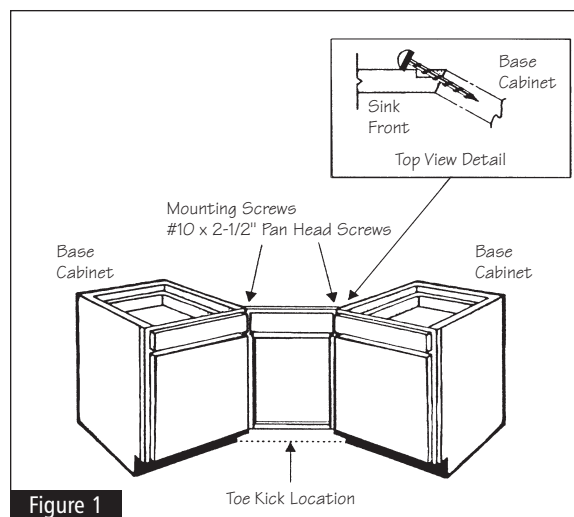

Figure 1
- 1** Determine the base cabinets which the Corner Sink Front is to be installed to. Hold/clamp the Corner Sink Front frame into place, making sure that the face of the unit is flush with the face of the base cabinets on each side and flush with the top edge of frames. Drill two 3/32" diameter attachment holes on each side through the vertical and into the base cabinet frame vertical, 1/4" back from the face of the cabinet frame, making sure not to drill completely through the frame vertical of the base cabinets. See Figure 1.
- 2** Attach the Corner Sink Front frame to the base cabinets with screws (#10 x 2-1/2" pan head screws, not provided) in two places on each side of unit. See Figure 1.